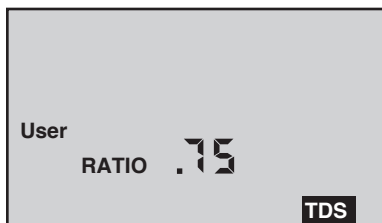

Figure 4
- b. Press $\frac{\text{CAL}}{\text{MCLR}}$ twice (to skip over tempco adjustment) and "RATIO" will appear (see Figure 4).